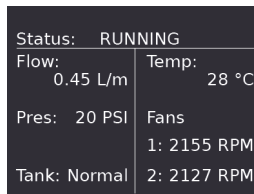

Figure 4-9 Information screen
- Press and hold the **MODE** button on the cooler to view detailed information on the cooler's LCD screen (see Figure 4-9 on page 144).
4.3 Cooler Shutdown (HT)